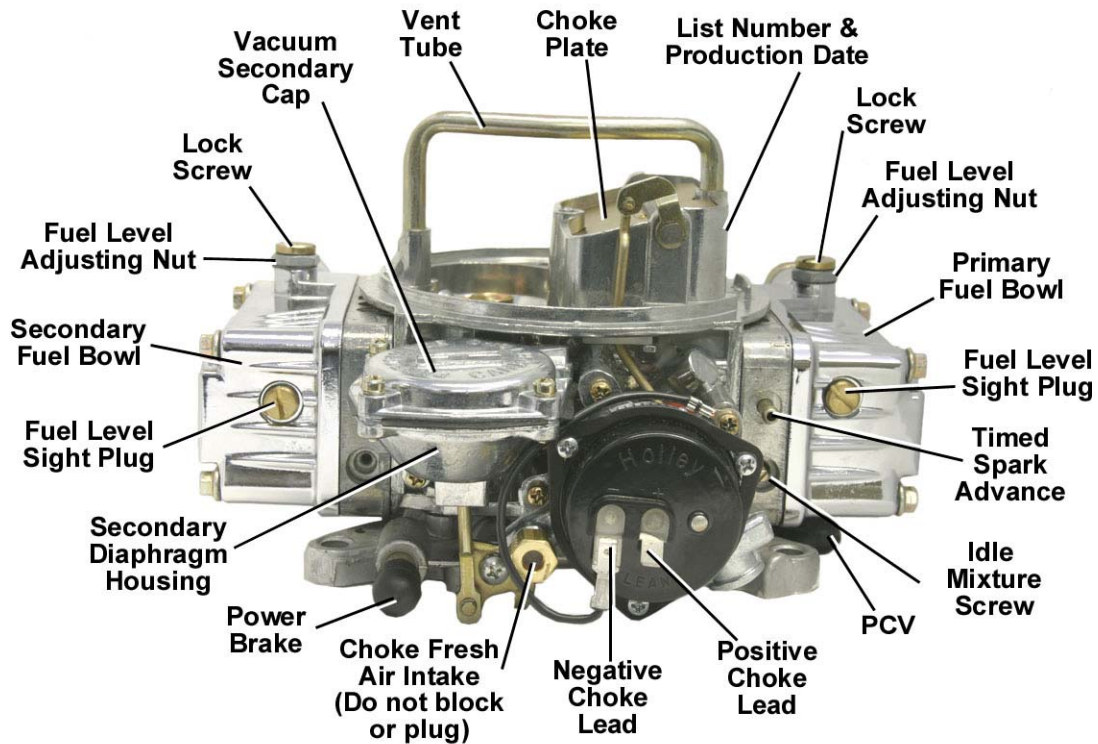

Figure 6
6. Reconnect the appropriate vacuum hoses to the carburetor, noting the correct fitting from Figure 6 and 7. Replace any cracked or dry rotted hoses at this time to prevent any vacuum leaks.
8. Connect the power brake hose (if applicable) to the fitting as shown in Figures 6 or 7.